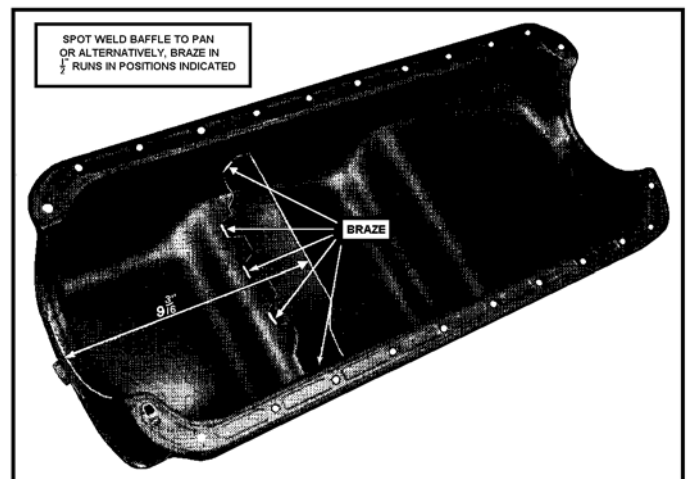

Fig. 1
6. Locate baffle in oil pan  $9\frac{3}{16}$  in. from extreme rear end of the pan, with the flanges facing the rear and spot weld in position (Fig. 1).